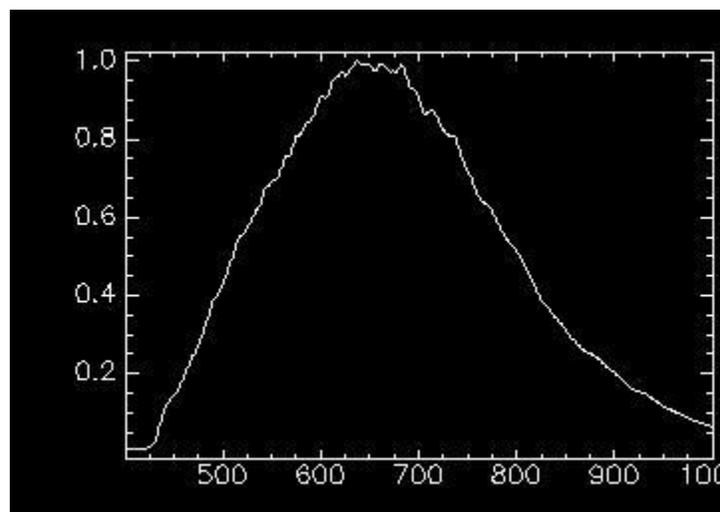

Figure 6.2a. Normalized lamp spectrum
- The normalized lamp spectrum is plotted (Figure 6.2a).